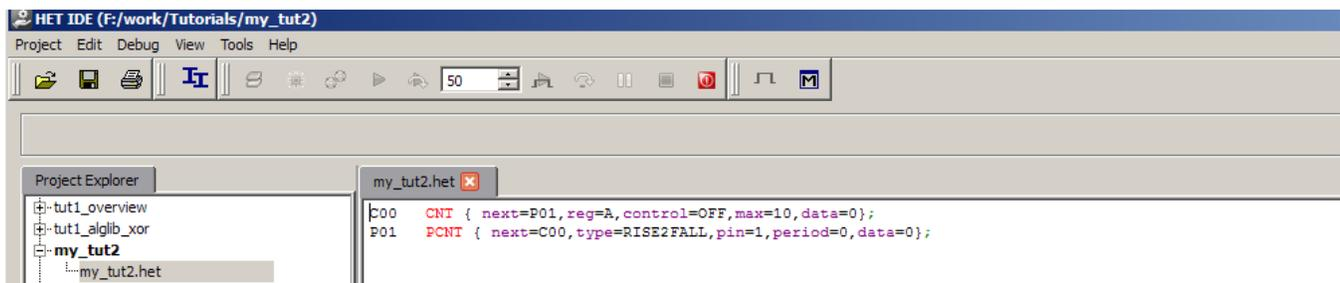

Figure 16. Complete Program for Tutorial 2
- You should now have a complete program consisting of two instructions (see Figure 16). Confirm that C00 is the first instruction in the program, if not swap C00 and P01 using the editor. This program periodically counts between 0...10 and uses this counter as timebase to measure the interval between rising and falling edges of pin 1.